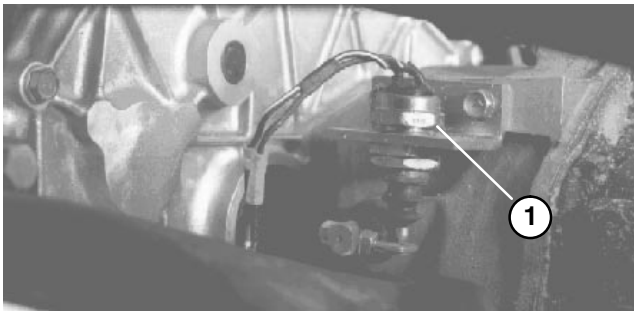

Figure 58
7. Recheck clutch safety switch adjustment (Fig. 58). Engine must not crank unless clutch pedal is $1.25" \pm .25"$ from floor. If an adjustment is required, loosen switch jam nuts and adjust up or down.